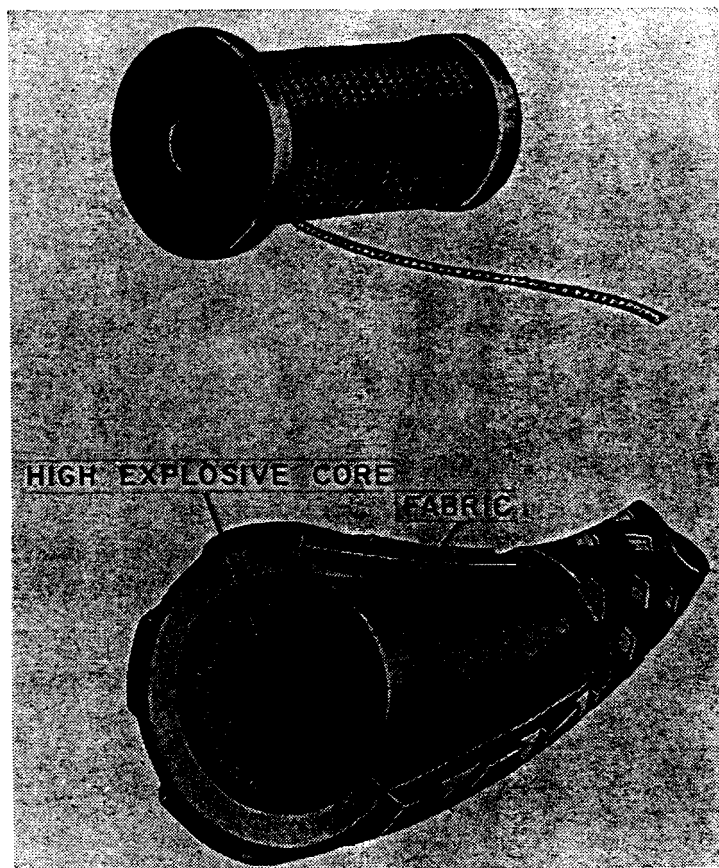

Figure 42. Detonating cord.
c. *Detonating Cord.* Detonating cord (primacord, fig. 42) is a high-explosive cord made by covering a core of PETN explosive with waterproof fabric. The fabric covering has a waxy surface and is colored yellow or yellow and black. Detonating cord is flexible and can be coiled or tied in the same way as a piece of rope. Detonating cord is used with chemical munitions, primarily as a bursting charge for the M1 chemical land mine and as an explosive train to connect land mines to a detonator.